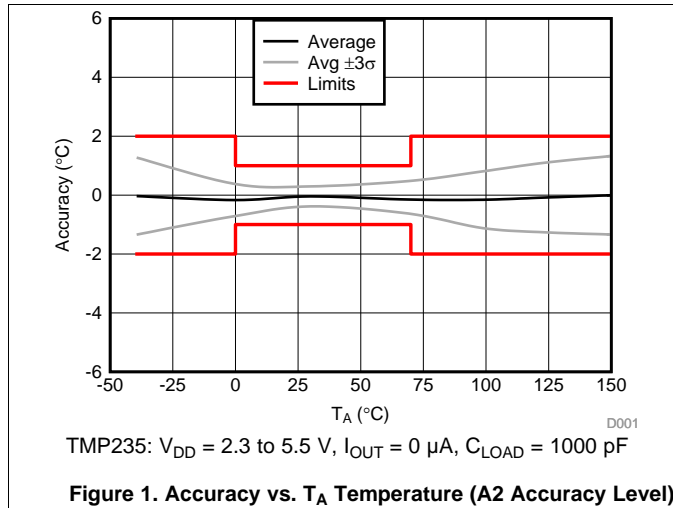

Figure 1. Accuracy vs. T_A Temperature (A2 Accuracy Level)
- Changed specification limits indicated in Figure 1 6